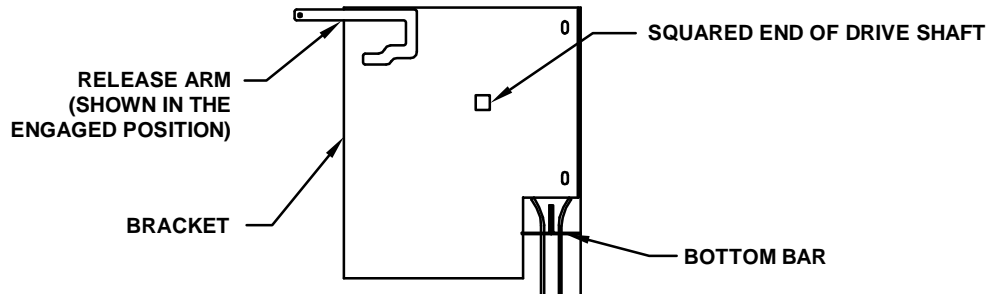

FIG D2
- 9) To reset the door, see reset instruction in FIG D2.